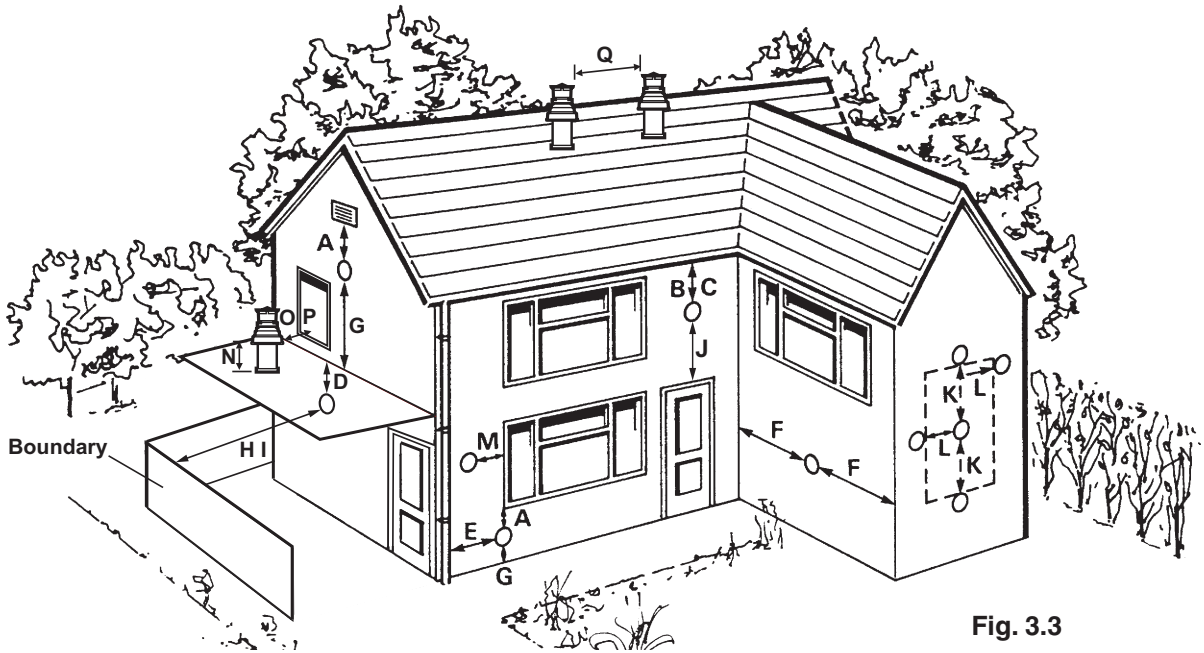

Fig. 3.3
3.5 FLUE TERMINAL LOCATION - Figs. 3.3 and 3.4